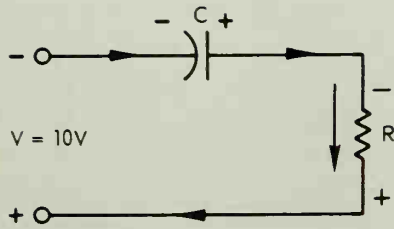

Fig. 15-2.
The step-down transformer is a convenient device to match these impedances. A low secondary voltage means a higher secondary current, which is just fine for transistors because they are current operated. A simple method of coupling transistor amplifier stages is by using resistor-capacitor (RC) coupling. A step-by-step explanation is given in Figs. 15-2 through 15-5.